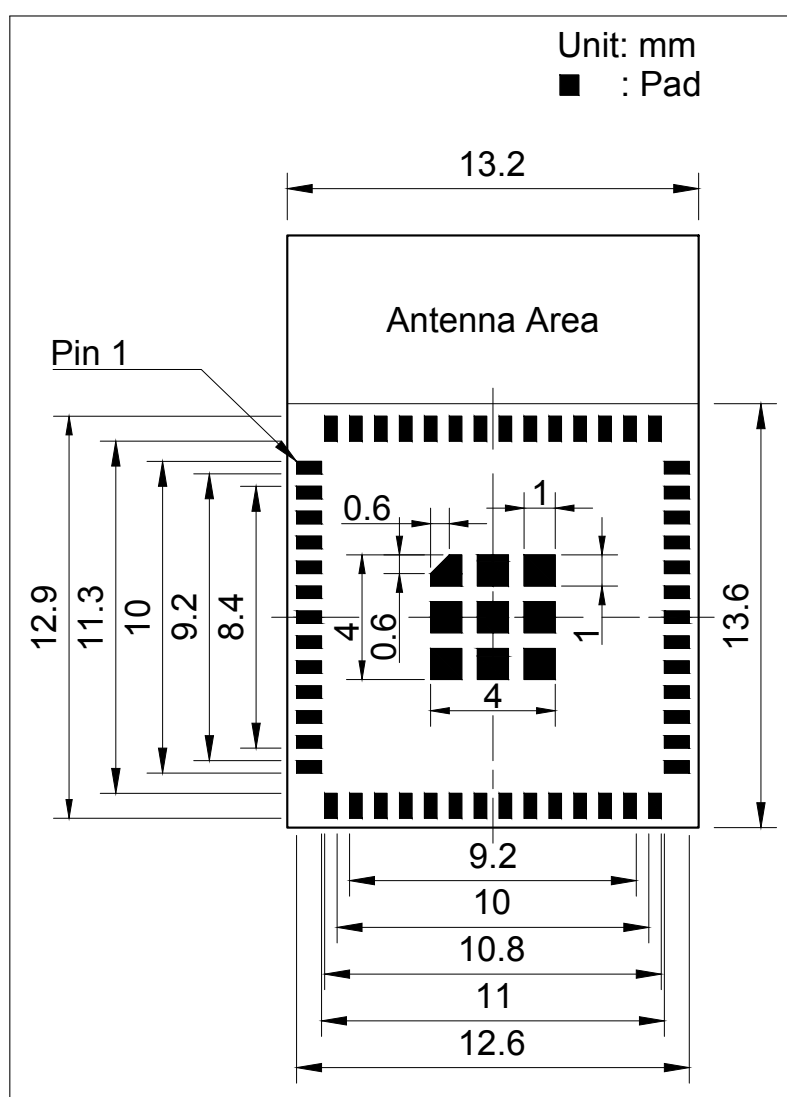
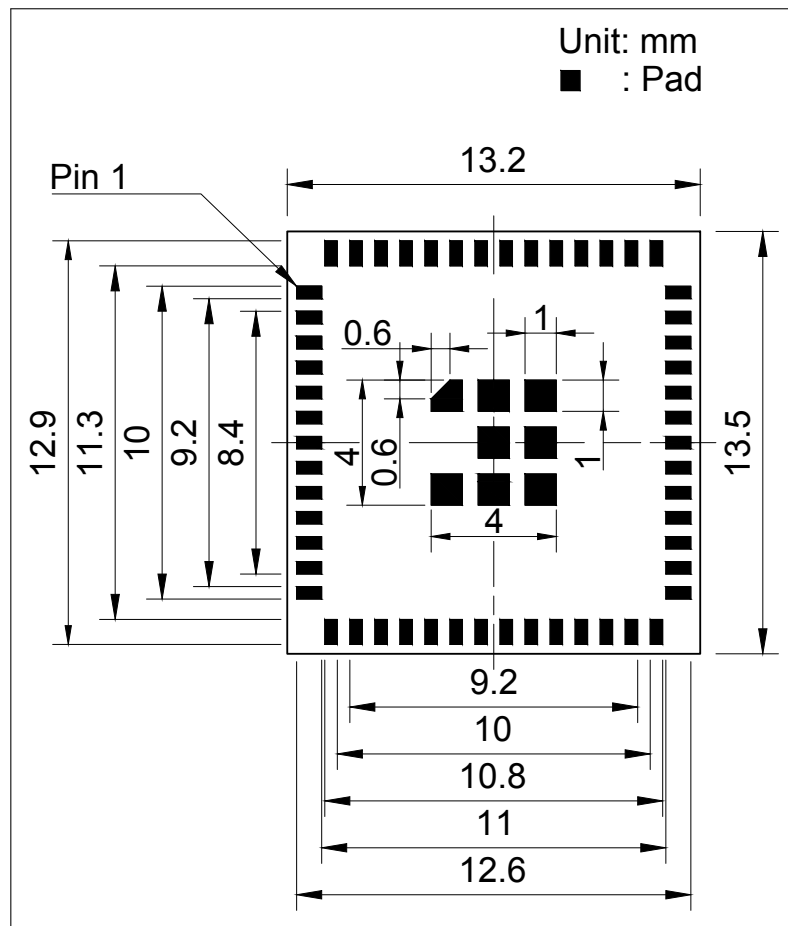

Figure 13: ESP32-MINI-1 Recommended PCB Land Pattern
Figure 14: ESP32-MINI-1U PCB Recommended PCB Land Pattern
- Figures for recommended PCB land patterns with all the dimensions needed for PCB design. See Figure 13 *ESP32-MINI-1 Recommended PCB Land Pattern* and Figure 14 *ESP32-MINI-1U PCB Recommended PCB Land Pattern*.
- Source files of recommended PCB land patterns to measure dimensions not covered in Figure 13 and Figure 14. You can view the source files for ESP32-MINI-1 and ESP32-MINI-1U with Autodesk Viewer.